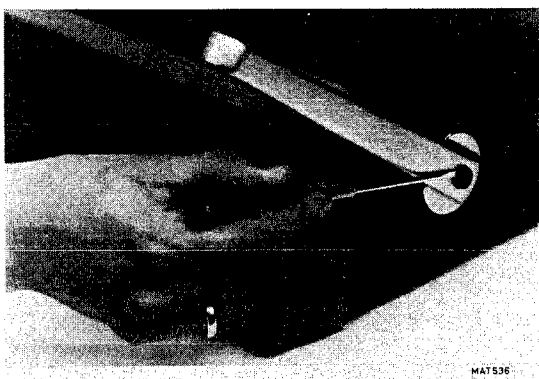

Fig. 3.1.
- Prise off the centre knobs from each pivot, using a screwdriver (Fig. 3.1.) in one of the small slots at the sides of the knobs.